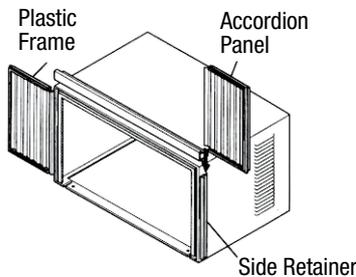
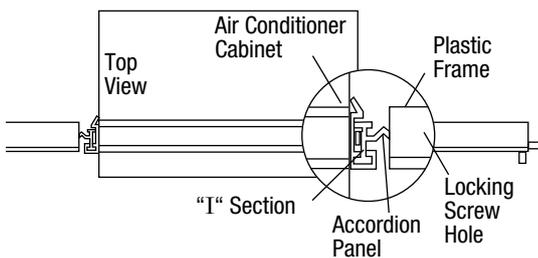

FIG. 9
FIG. 10
2. Slide "I" section of window filler panel into side retainer on the side of the cabinet. (See Fig. 9 and Fig. 10.) Do this on both sides.